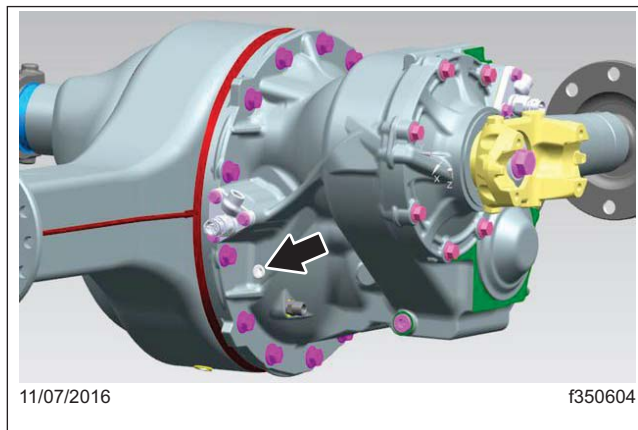
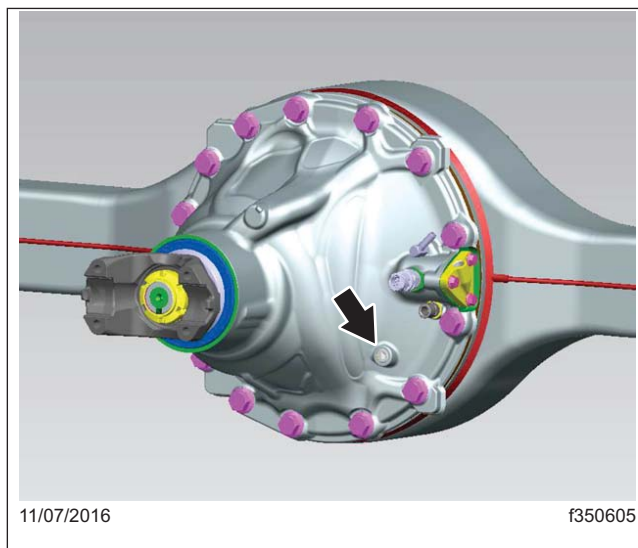

Fig. 3, Detroit™ New Final Drive Forward Axle, Oil Fill Location
Fig. 4, Detroit™ New Final Drive Rear Axle, Oil Fill Location
2. Clean the fill plug and the area around it. In the carrier housing, remove the plug from the oil fill hole. See Fig. 3 for the forward axle, and Fig. 4 for the rear axle .